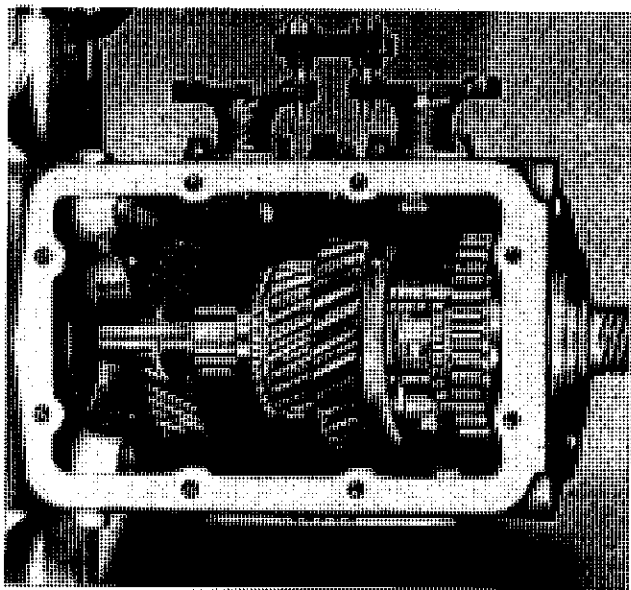
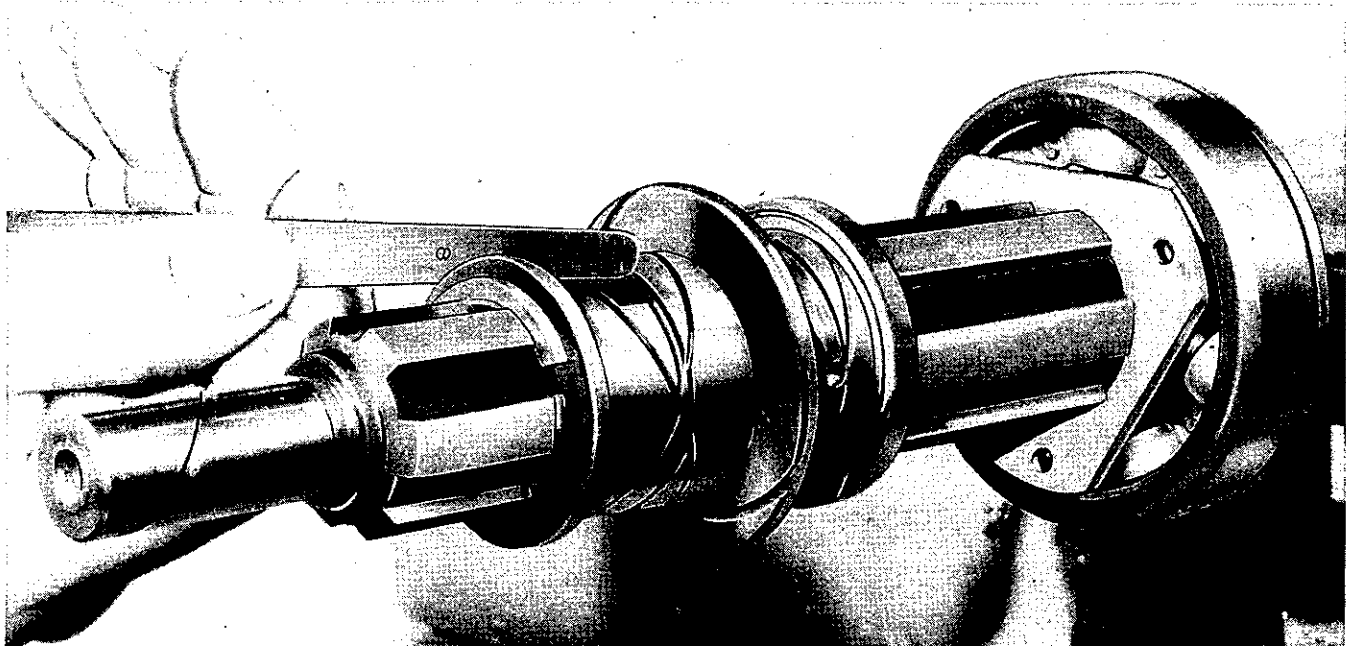
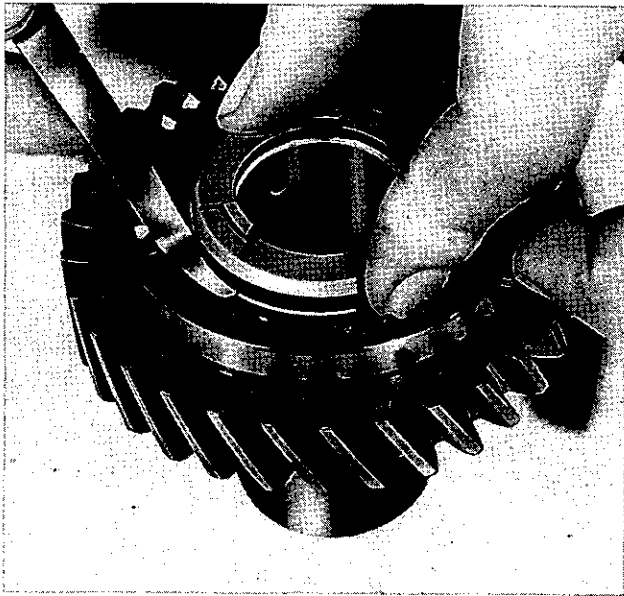

Fig. 12. Showing use of adaptor sleeve for installing circlip with special sleeve (Churchill Tool No. 20SM-46). Note selector locking bracket (Tool No. 20SM-67)
Fig. 20. Checking end float in mainshaft bearing bushes with half circlip and feeler gauge
Fig. 22. Checking end float of "first" constant wheel on bush
4. Reassemble spigotted interlocking device and subsequently fit bracket, as shown in Fig. 12 to fix selectors and thus prevent any possibility of the interlocking plunger falling into the gearbox casing.
- (f) Fit new circlip employing tool shown in Fig. 12. It is important to ensure that the thrust washer which abutts against the second mainshaft gear, where new parts have been fitted, permits the circlip to go properly home in its recess and if it is necessary the thickness of the thrust washer should be suitably adjusted to just provide the necessary clearance to allow the circlip to be rotated freely in its recess and be tested with a half circlip as shown in Fig. 20.
$.004"$ — $.006"$ in the first and second constant gears and can be measured as shown in Fig. 22 and 23 respectively. Overall float on these gears can be measured as shown in Fig. 20 and should be from $.007"$ to $.012"$.
9. The mainshaft may now be installed in the gearbox casing. Assemble mainshaft gears in sequence indicated under operation 8. Fit mainshaft circlip as shown in Fig. 12.